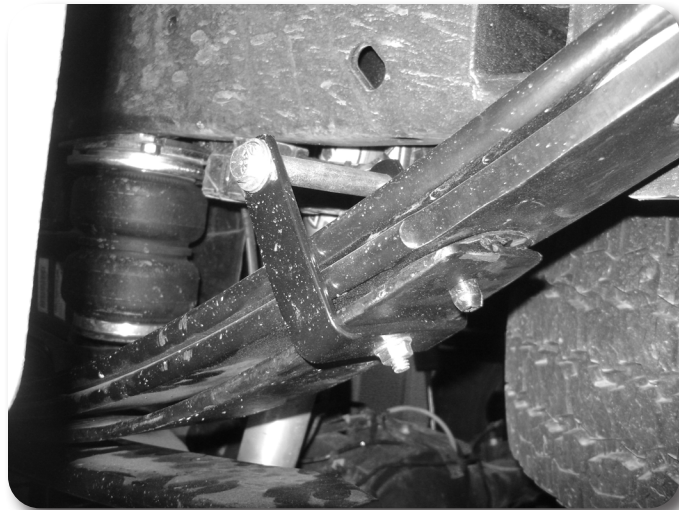

Figure 24
11. Install the hendricks clamps onto the add-a-leaf to the bottom side of the leaf spring. Install the anti-frication pads into the add-a-leaf. **Figure 24**